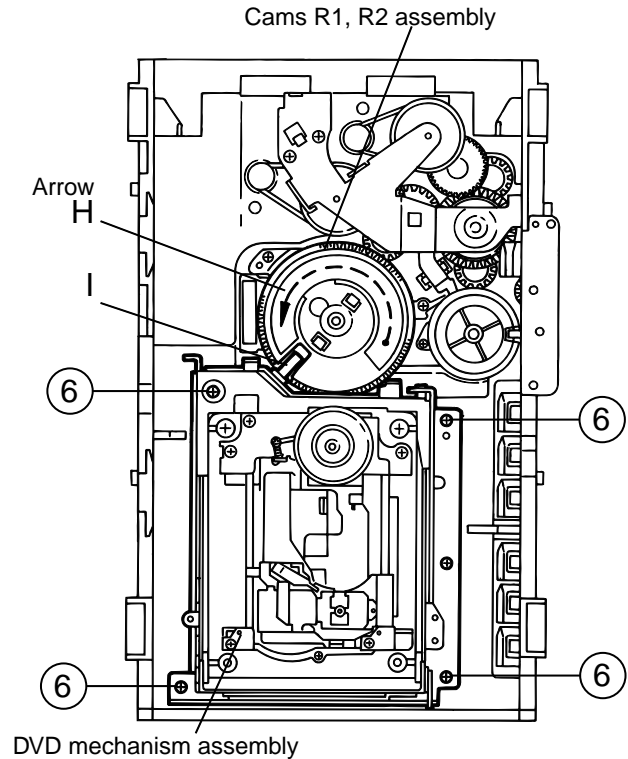

Fig.10
■ Removing the DVD mechanism assembly (See Fig.10)
1. While turning the cams R1 and R2 assembly in the arrow direction "H" . align the shaft "I" of the DVD mechanism assembly to the position shown in Fig.10.